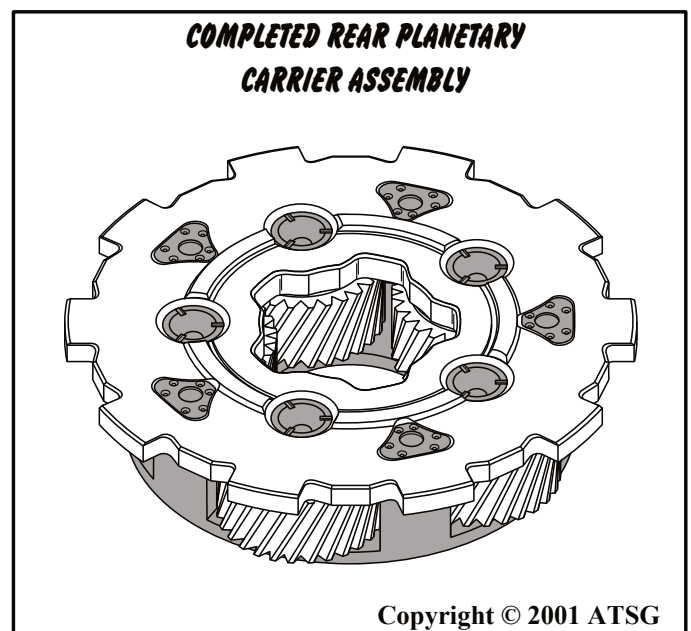

Figure 102
1. Inspect the rear planetary carrier carefully for any wear and/or damage (See Figure 102).
2. Set completed rear planetary carrier assembly aside for the final assembly process. Refer to Figure 102.